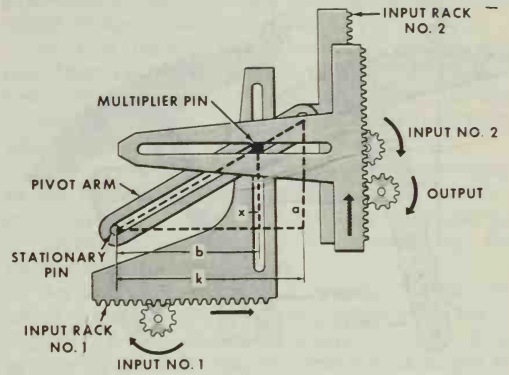

Figure 15-7.—Rack type multiplier.
The rack type multiplier in figure 15-7 performs the same task as the screw type multiplier. The differences are that (1) the screw input has been replaced with an input rack, and (2) the output rack is placed on the same side as the second input rack.